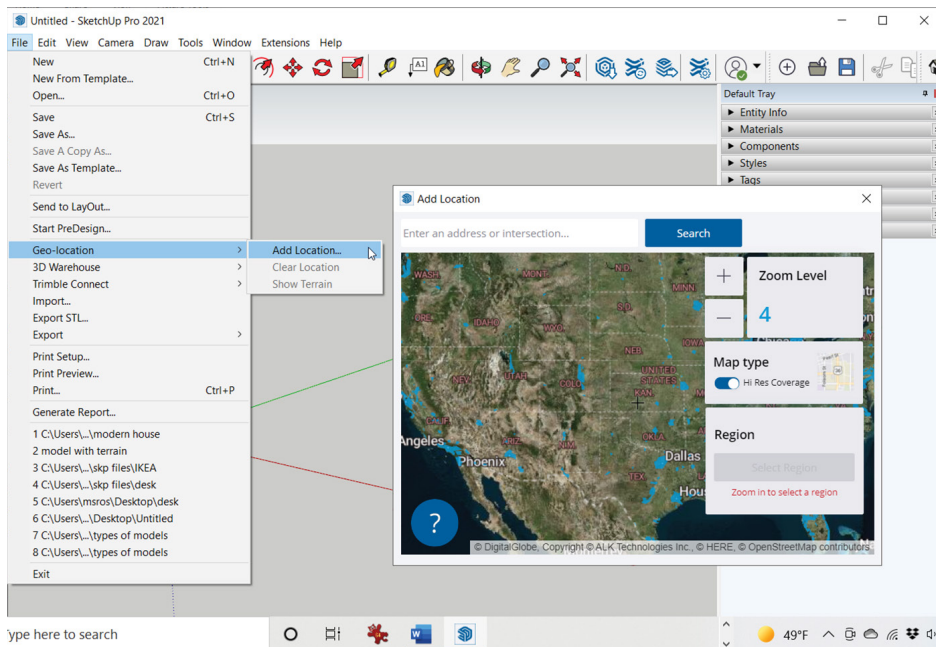

Figure 1-6: Access land contours and geolocation data anywhere in the world through SketchUp.
- ▶ *Import real-life terrain contours and geolocation information (Figure 1-6).*